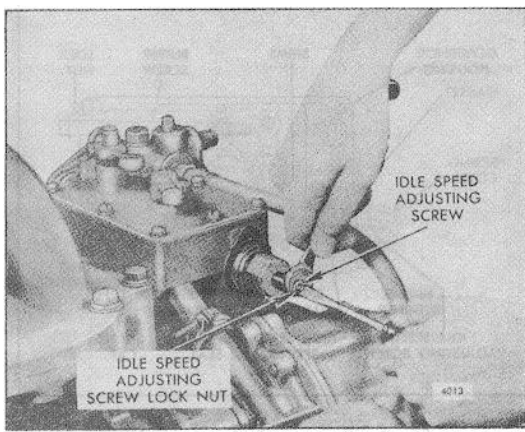
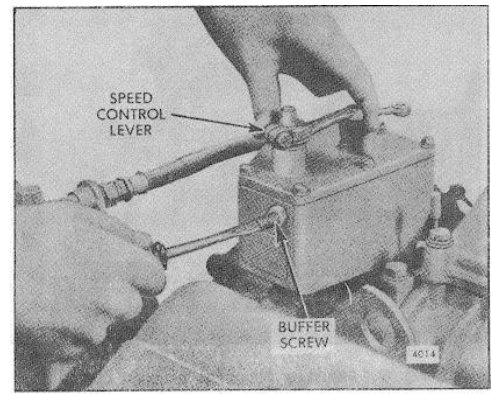

Fig. 8. Adjusting Engine Idle Speed
Fig. 9. Adjusting Buffer Screw
2. Back out the buffer screw (Fig. 9) until it extends approximately 5/8" from the lock nut.
1. With the engine running at normal operating temperature and with the buffer screw backed out to Fig. 8 - Adjusting Engine Idle Speed Fig. 9 - Adjusting Buffer Screw avoid contact with the differential lever, turn the idle speed adjusting screw (Fig. 8) until the engine is operating at approximately 15 rpm below the recommended idle speed.
1. With the engine running at normal operating temperature, turn the buffer screw in (Fig. 9) so it contacts the differential lever as lightly as possible and still eliminates engine roll.